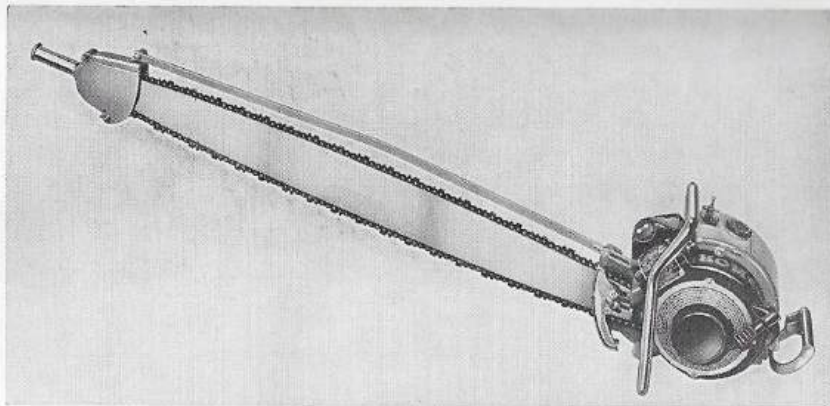

Figure 8—Homelite Gasoline Chain Saw — Model 26LCS-42
d. Two-Man Operation (See Figure 8)
(1) The 26 LCS-34 and 26 LCS-42C Chain Saws are built for two-man operation. The Model 26 LCS-28 and 26 LCS-23 Chain Saws may be adapted for two-man operation by the addition of a helper's end handle, chain guard and two-man bumper shoe. Remove the spiked bumper plate from the saw and replace with a smooth bumper plate. Remove the two $\frac{3}{8}$ -16 hex nuts and lock-washers which fasten tensioning device and guide bar. Place bumper shoe over